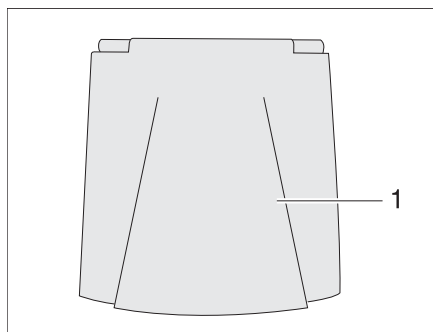

Fig. 33 Cover flap for the fuel filler neck
- Open the cover flap (Fig. 33,1).
- Insert the key in the locking cylinder (Fig. 33,3) and turn it in an anticlockwise direction.